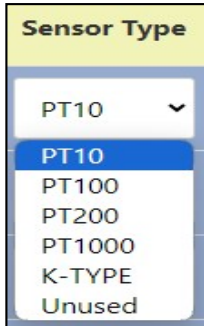

Figure 48: Dropdown Menu for Selecting Temperature Sensor Type
- 1. Sensor Type:** Choose the temperature sensor type (e.g., PT10, PT100, thermocouples (K type), etc) from the dropdown menu as shown in Fig 48.